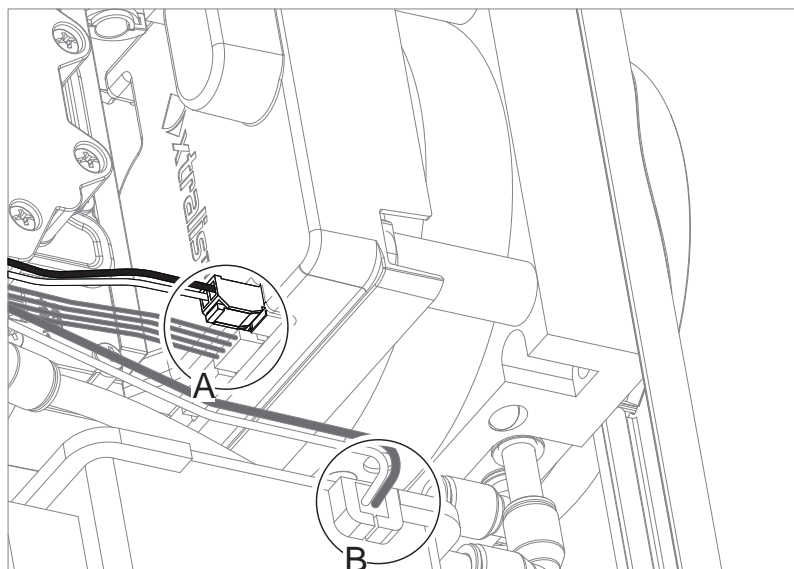

Figure 7-19: Remove cables
5. Disconnect the three cables (A and B) (Figure 7-19).